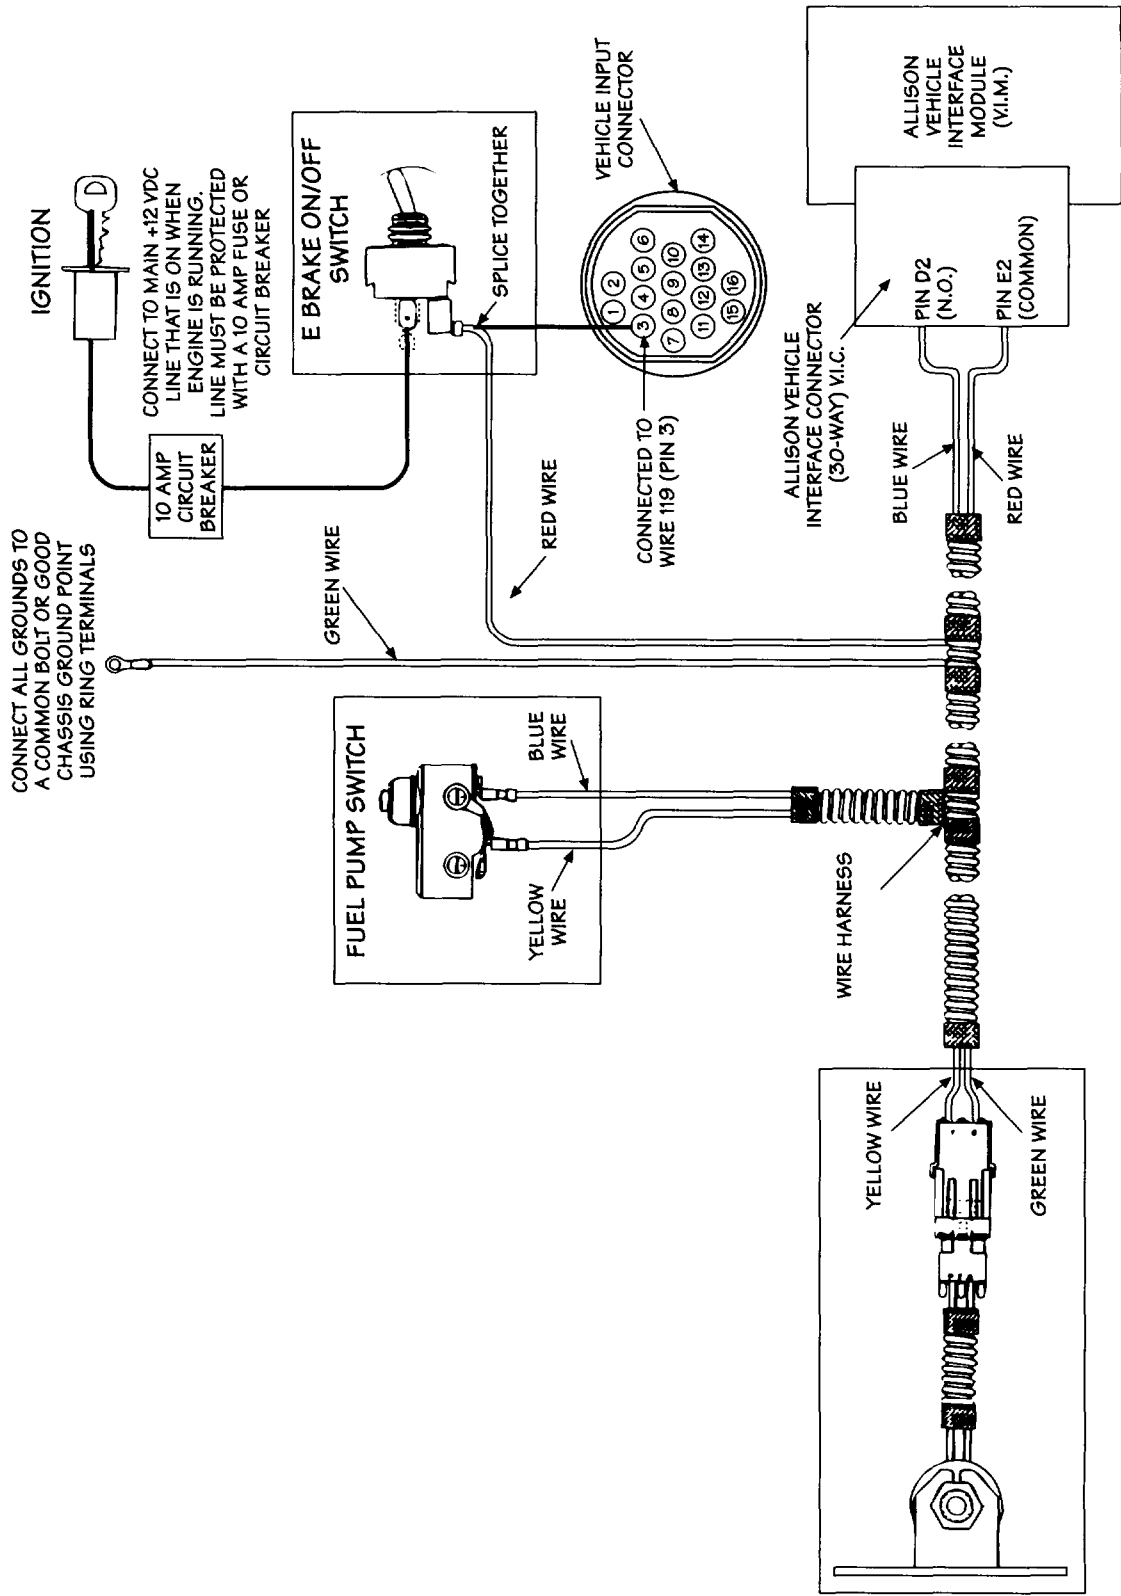

FIG. 1
3. Locate wire 119 (Pin 3) in the Vehicle Input Connector. Splice a suitable length of 16-gage wire to the output side of the E Brake ON/OFF switch. Connect the other end of this wire to the wire marked 119 in the Vehicle Input Connector. The preferred method of connecting to Wire 119 is to use a mating input connector. This may be accomplished either by using a fully wired connector (Allison P/N 29501001) or by using a connector shell (Allison P/N 23016490) and terminal (Allison P/N 23015205) (see Fig. 1, page 2). If connections are made by splicing, all connections must be soldered and sealed with heat shrink tubing.